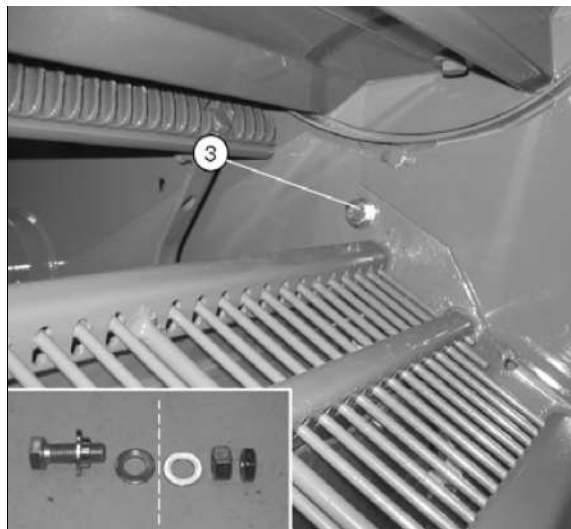

Fig. 2.
- The assembly order for the various elements is shown in (*fig. 2*).